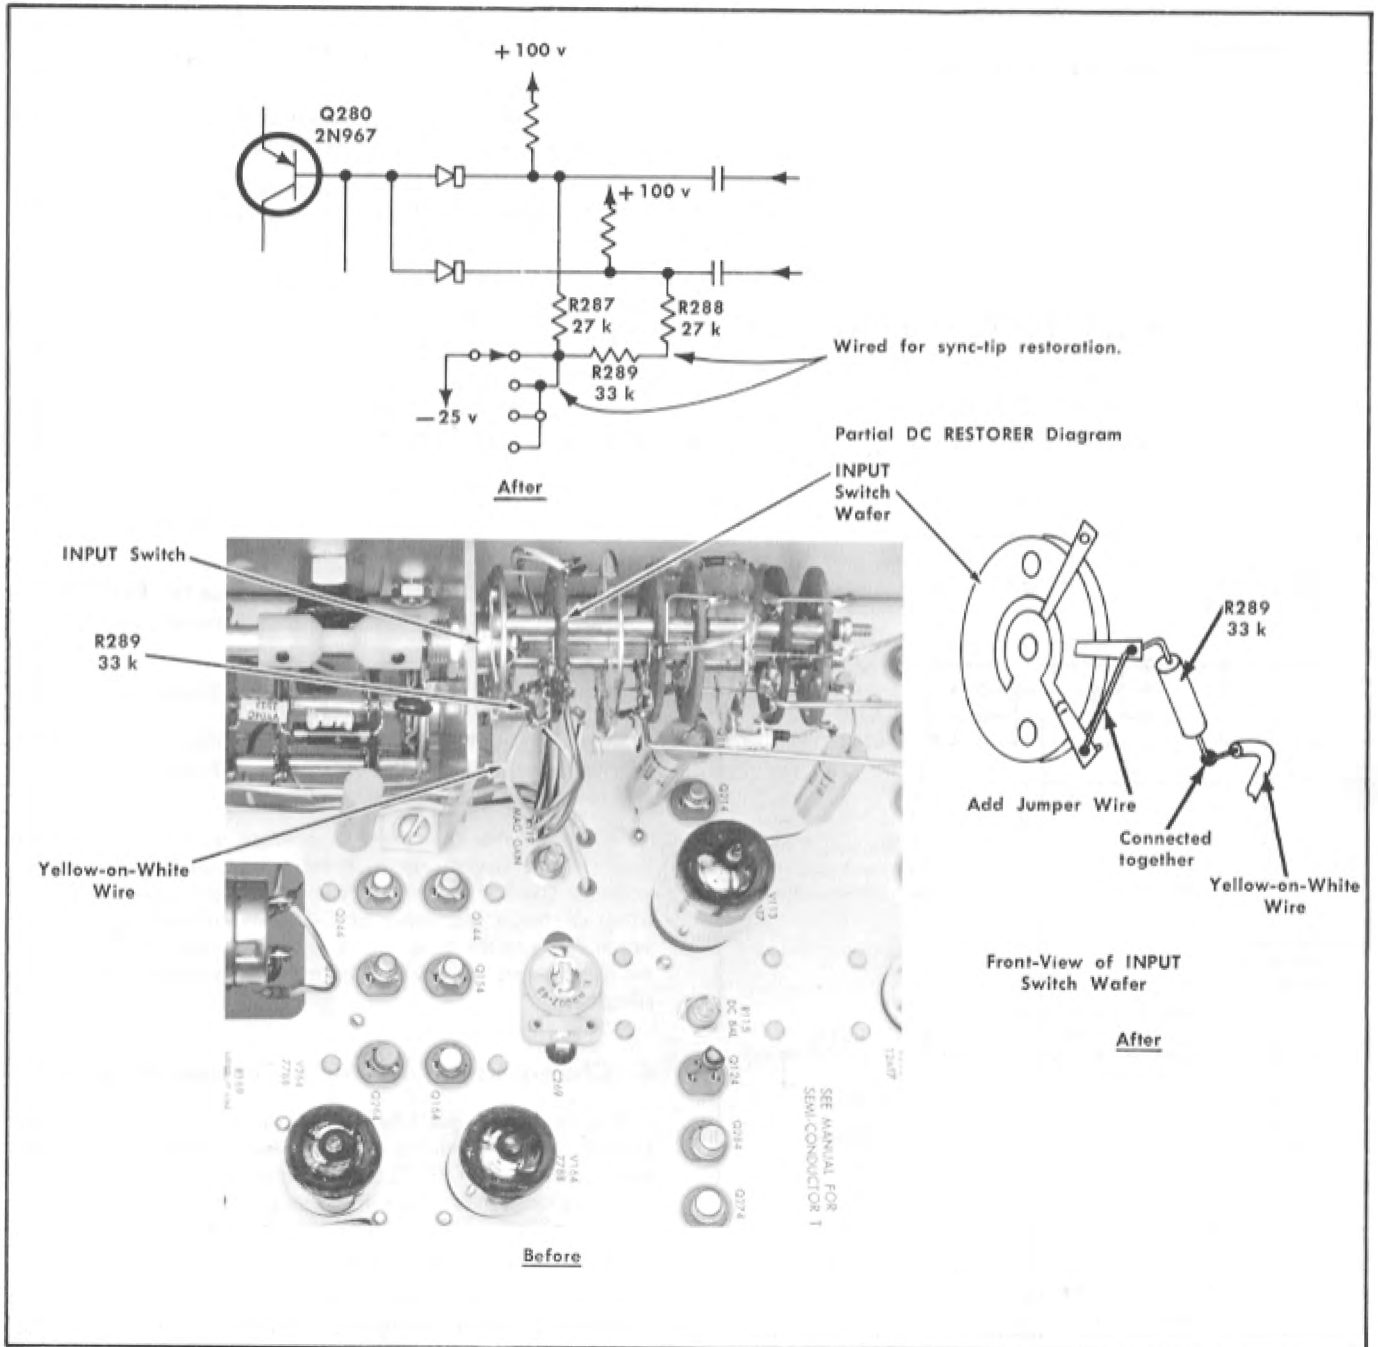

Fig. 2-4. Modification for sync-tip restoration.
- a. Unsolder the yellow-on-white wire (refer to Fig. 2-4) and
- b. Solder a jumper wire between the two contacts on wafer 1F of the INPUT switch as shown in Fig. 2-4.